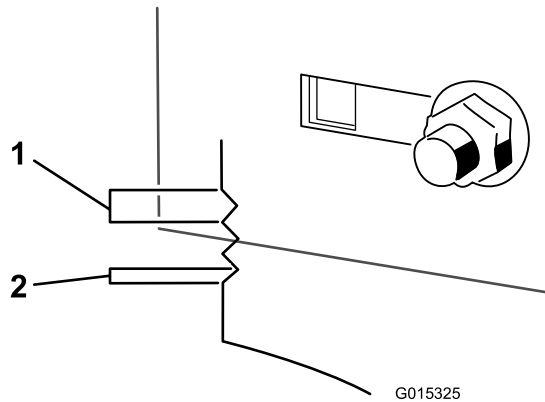

Figure 50
9. Use the notches on the welded bracket to measure the amount of adjustment. Each notch surface is equivalent to 0.25 inch, while a single side is 0.125 inch (Figure 50). Adjust the height of the mower deck to the desired height.